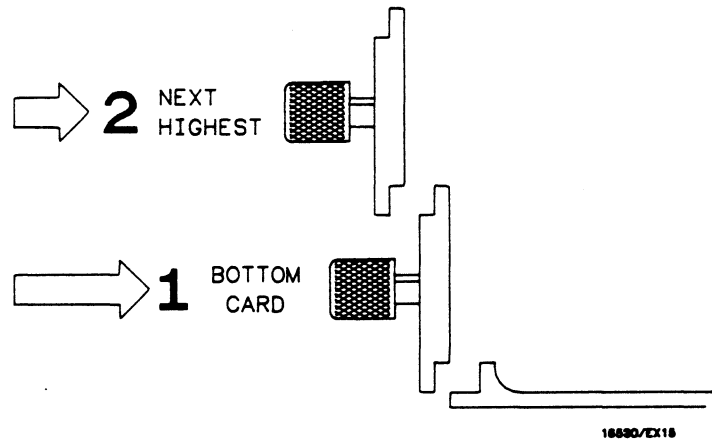

Figure 2-11. Endplate Overhang
- p. Repeat for all cards and filler panels in a bottom to top order. See figure 2-11.